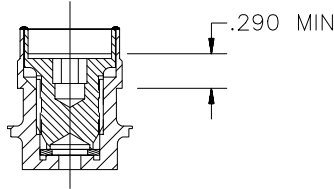

Figure 502. Minimum Fill Fitting Height
- A. Measure the fill fitting for a minimum height of 0.290 inch (0.737 cm) to let you install a new filler plug correctly. Reject containers with less than the minimum permitted height. See Figure 502.